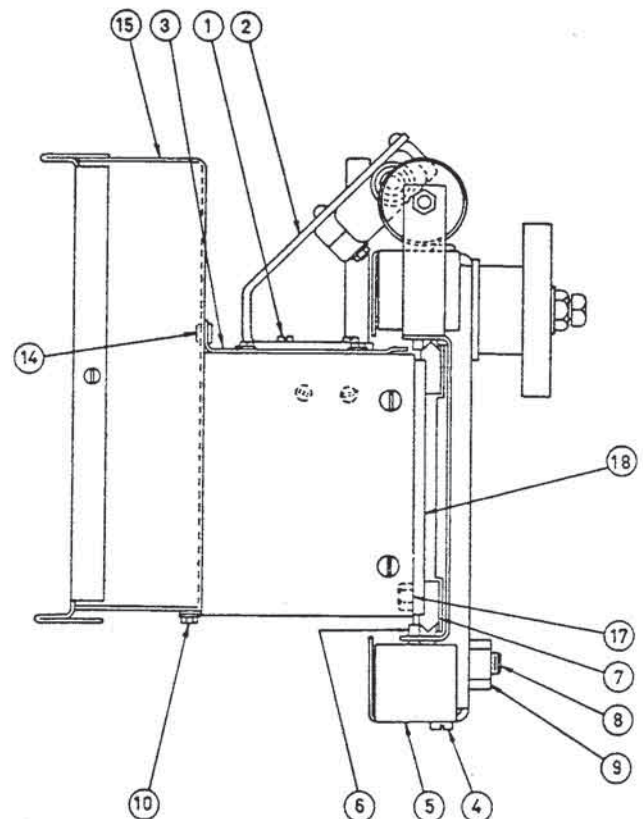

Figure 3
2. *"V" tracks and bearings* — Clean, inspect and re-lubricate twice a year (more often under severe duty applications) as follows (see Figure 3):